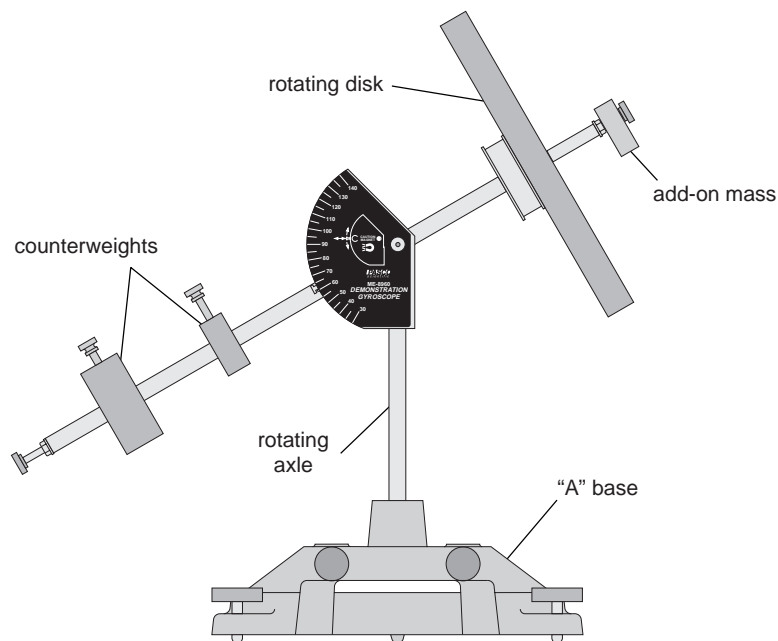

Figure 4.1: Release Position of Gyro
- ① Adjust the counterweights until the gyroscope is balanced.
- ② Put the add-on mass on the end of the shaft.
- ③ Spin the disk and release the gyroscope from rest at an angle of about 30° . See Figure 4.1.